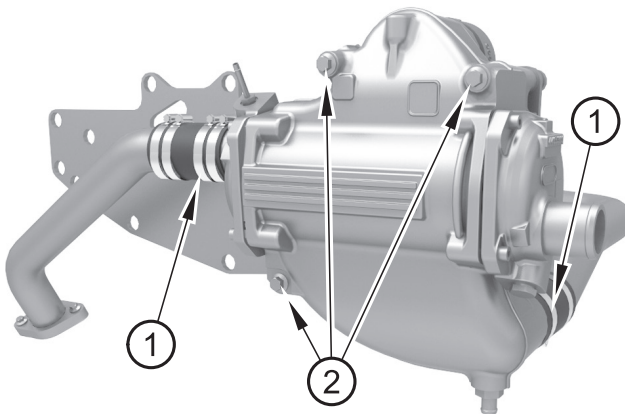
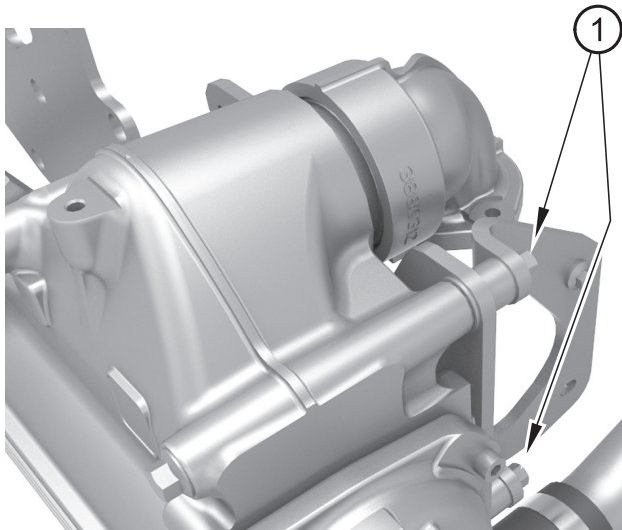

Figure 22
Figure 23
2. Slacken the hose clips (figure 22 item 1).
3. Remove bolts (item 2) and remove hose assemblies.
4. Remove the bolts that secure the assembly at the rear (figure 23 item 1).